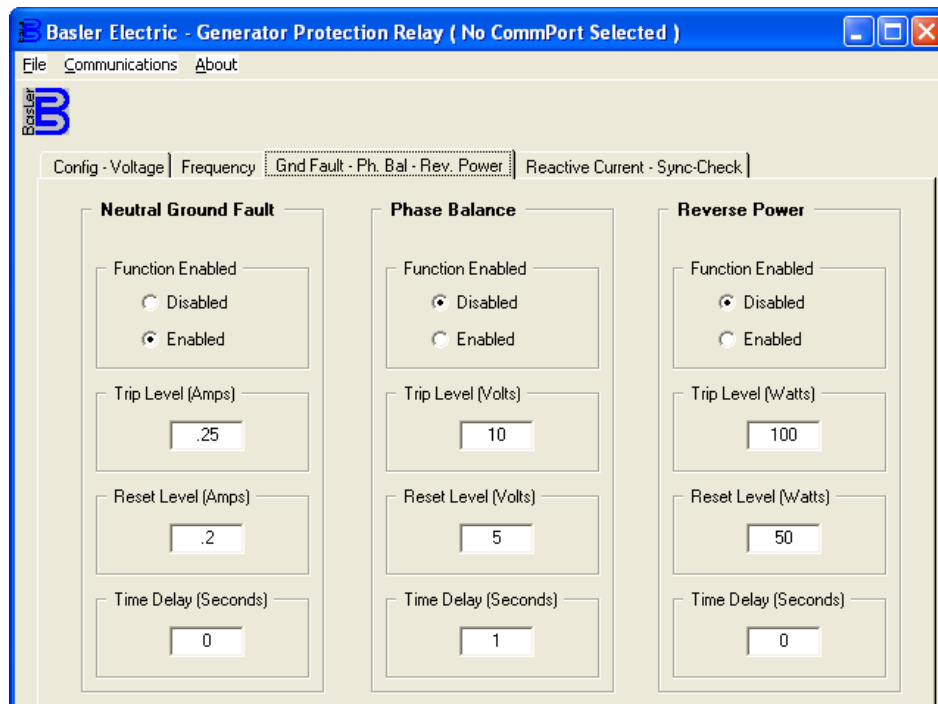

Figure 5-7. Over Current - Ph. Bal - Rev. Power Tab Settings
This tab exists only in the Time Overcurrent version of the software and is used with relays that have style number x1xxxx. This tab contains Time Overcurrent (51V), Phase Balance (47), and Reverse Power (32R) protection settings. Over Current – Ph. Bal – Rev. Power tab settings are shown in Figure 5-7.